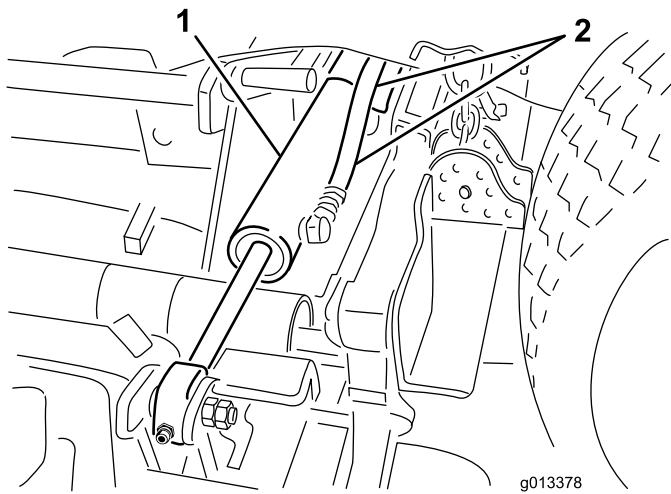

Figure 3
5. Disconnect the hydraulic hoses from the wing-deck-lift cylinders (Figure 3).